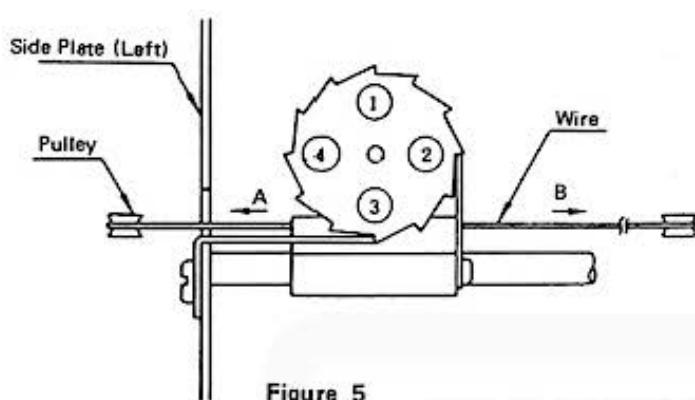
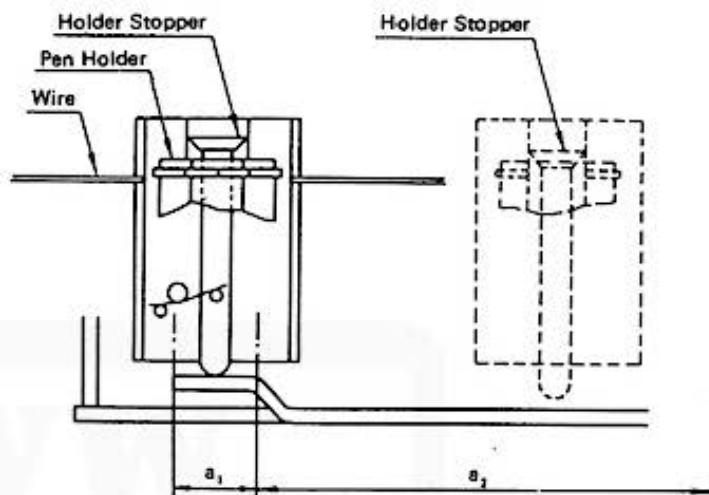

Figure 5
Figure 6
First, the slider moves to the area a_1 in Figure 6 (45 pulses to the left from the origin). Then, the holder stopper in the slider contacts the projection on the holding plate, and the wedge section of the holder stopper slips out of the pen holder, and releases holder to rotate. Next, by repeating the movement of the X motor for 30 pulses each in direction A and to the left, the pen ① in Figure 5 changes to pen ②. The spring moves the pen holder to the right until it returns to the origin. The pen holder then enters its groove, and printer is ready to print.